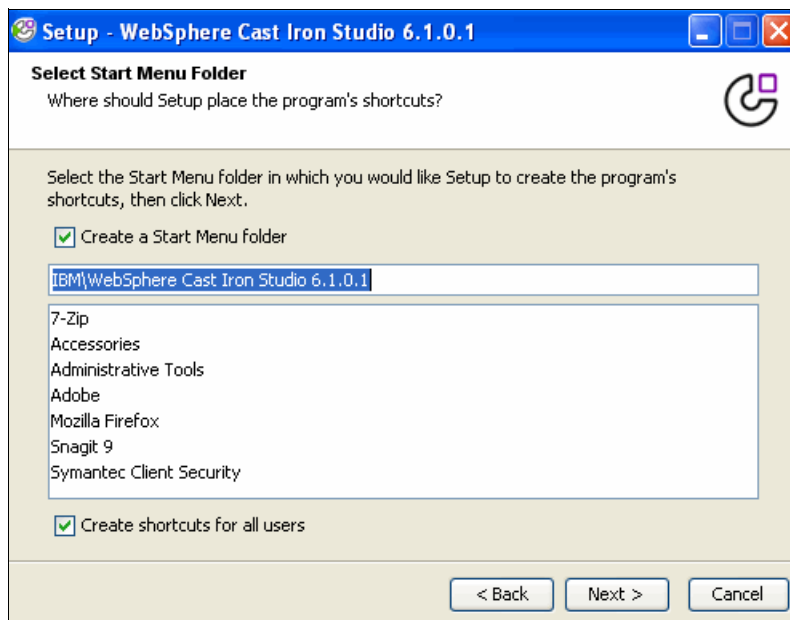

Figure 2-4 Studio installation Start menu
5. Accept the default options for the Start Menu Folder, as shown in Figure 2-4, and then click **Next**.